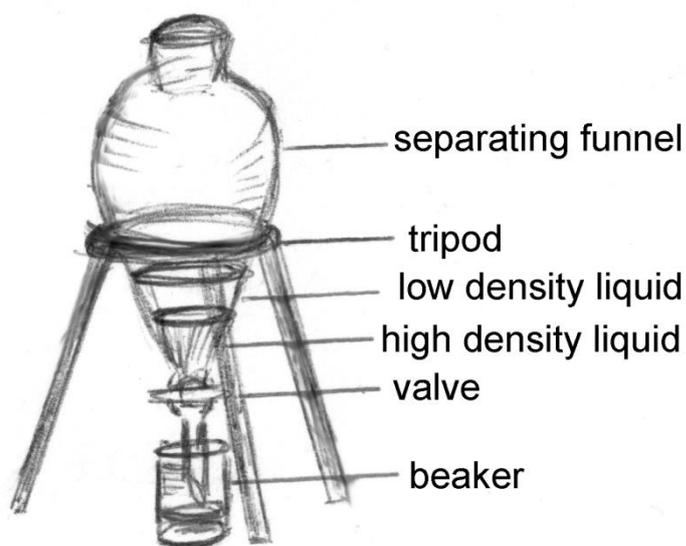

Fig. 4. Separation funnel
7. Separate the organic phase using separating funnel (Fig.4).